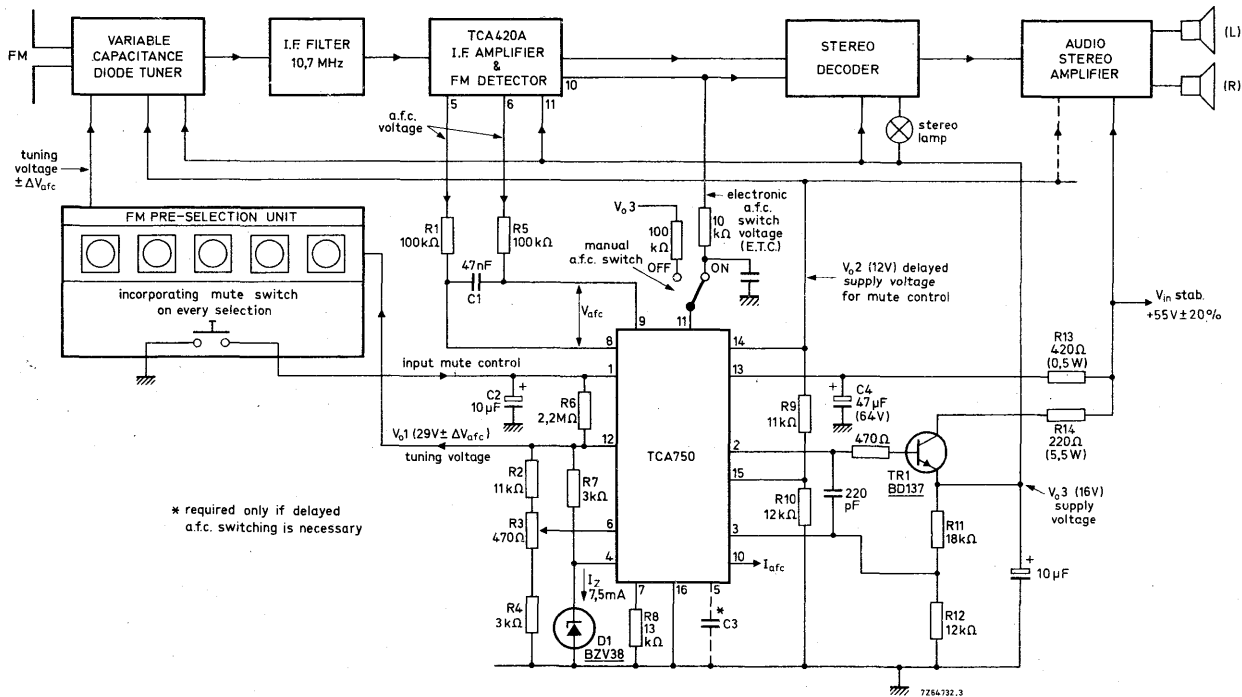

Fig. 8 Hi-fi radio receiver with electronic tuning using TCA750.
4. If a higher level is required from the output of stabilizer 1, the reference diode supply may be obtained from the emitter of a power transistor connected to the output from stabilizer 3 (see Fig. 8). In this case, the current available from stabilizer 1 is increased to 12,5 mA (bleeder current  $I_{RA1} = 2$  mA).